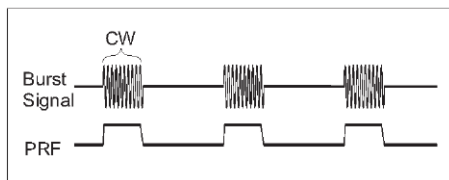

Fig. 4-2 Burst signal.
A burst signal as in Fig. 4-2 has a carrier wave (CW) frequency and a modulation frequency, also called the pulse repetition frequency (PRF), that switches the CW signal on and off.